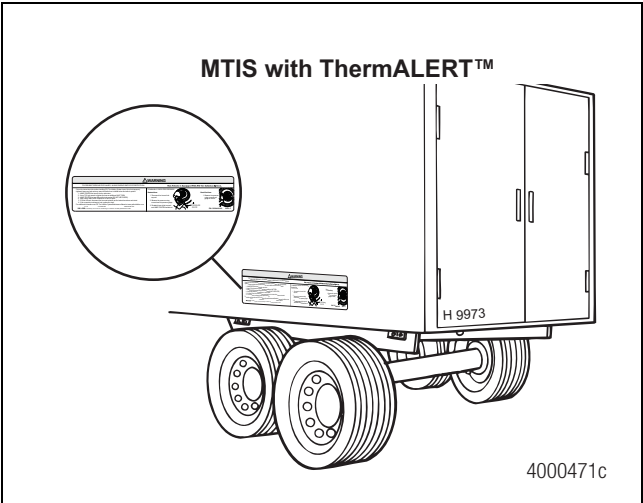

Figure 2.80
1. Install an identification and hose installation decal on each side of the trailer above the suspension. Figure 2.80.